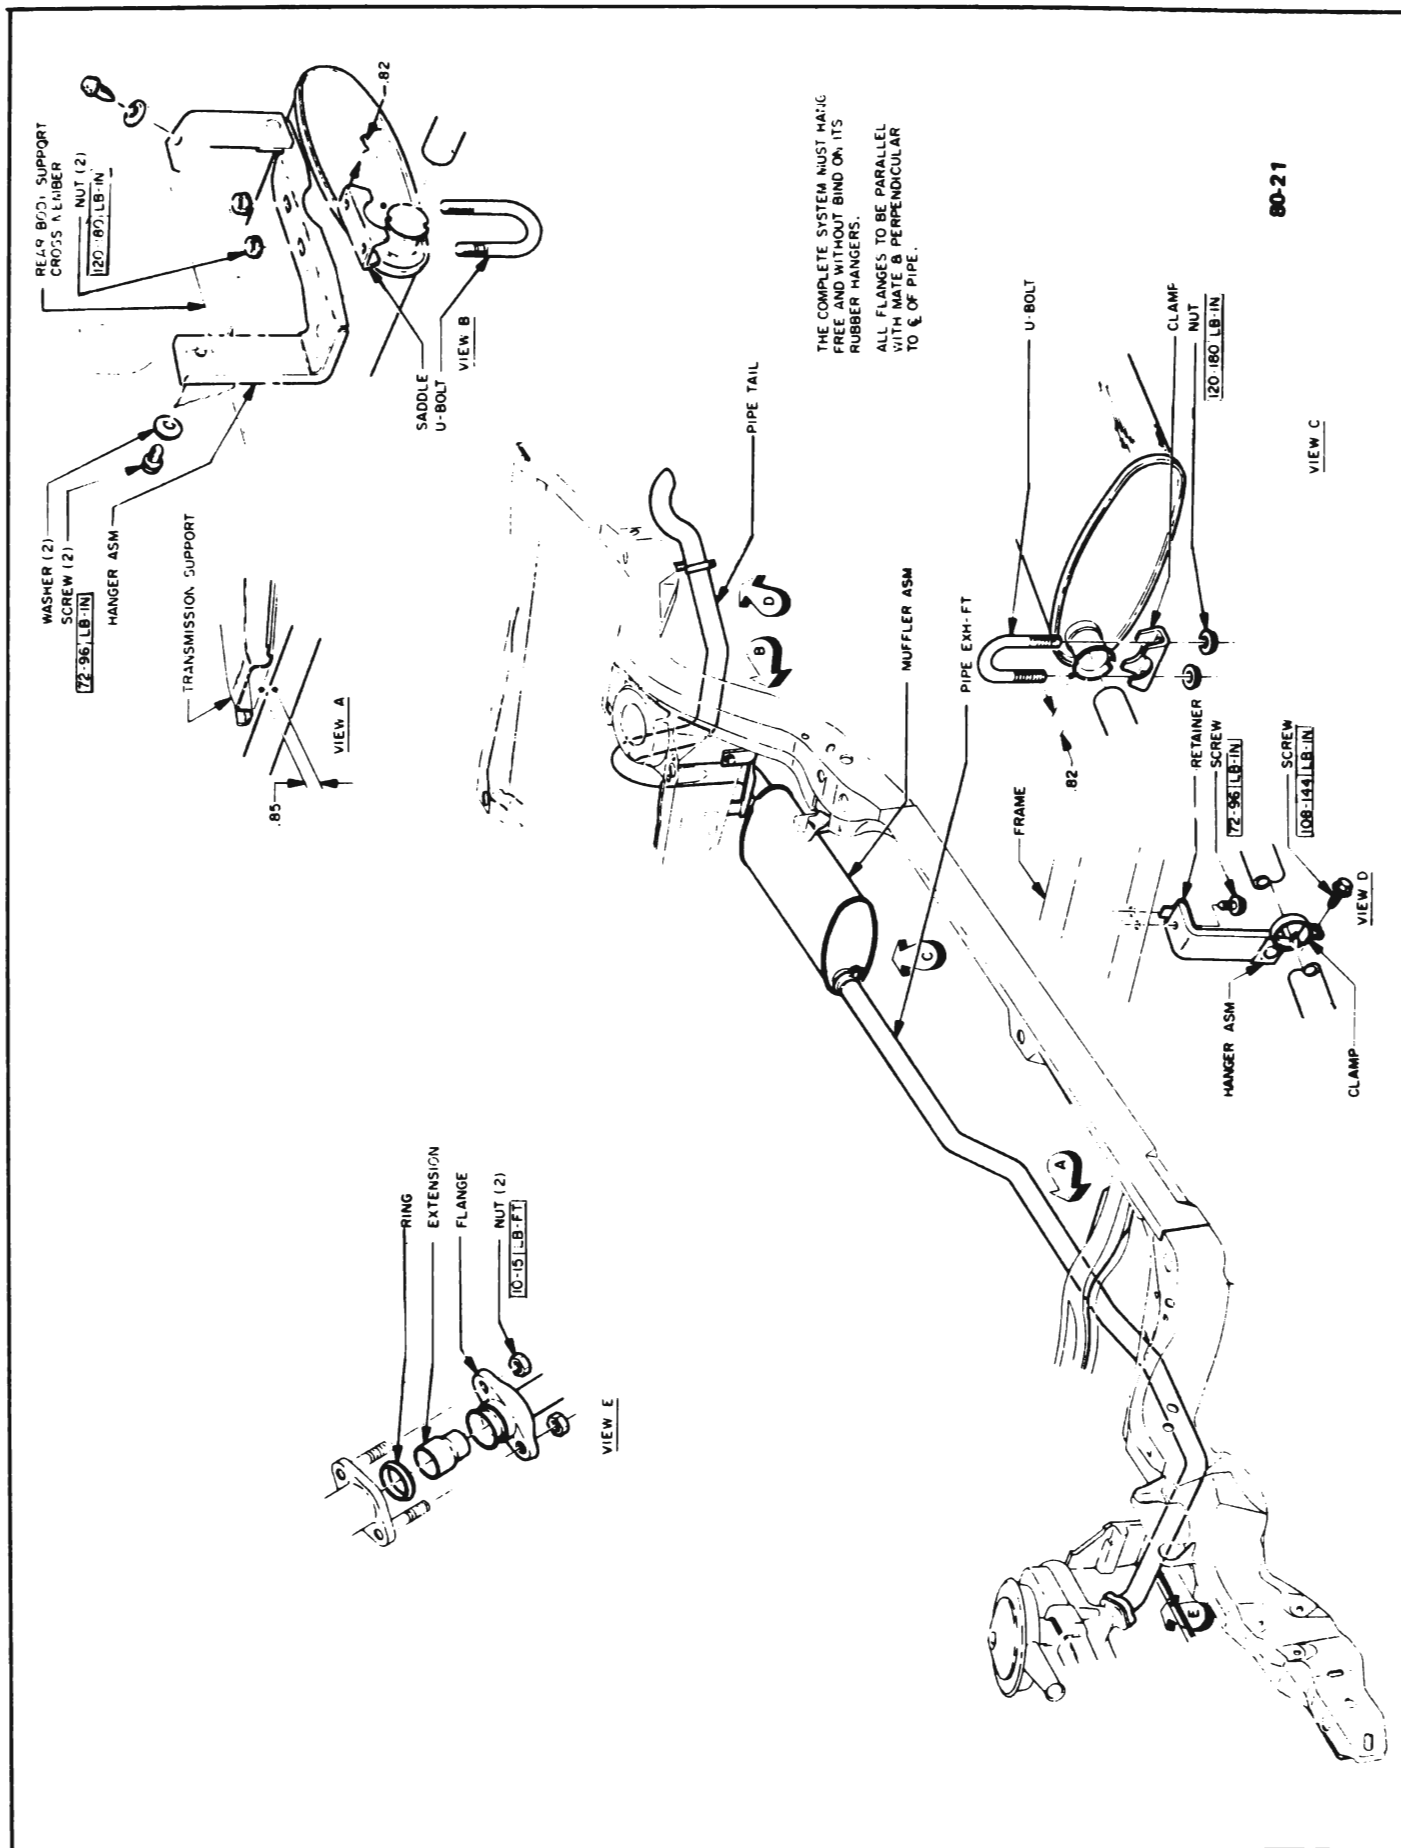

Figure 80-6 Exhaust System - L-6 Special and Skylark
9. Align muffler and exhaust pipe. See illustration that applies - Figures 80-6 through 12.
7. Align resonator assembly. See illustration that applies - Figures 80-6 through 12.
6. Align exhaust pipe. See illustration that applies - Figures 80-6 through 12.
7. Align tail pipe. See Figures 80-6 through 12.